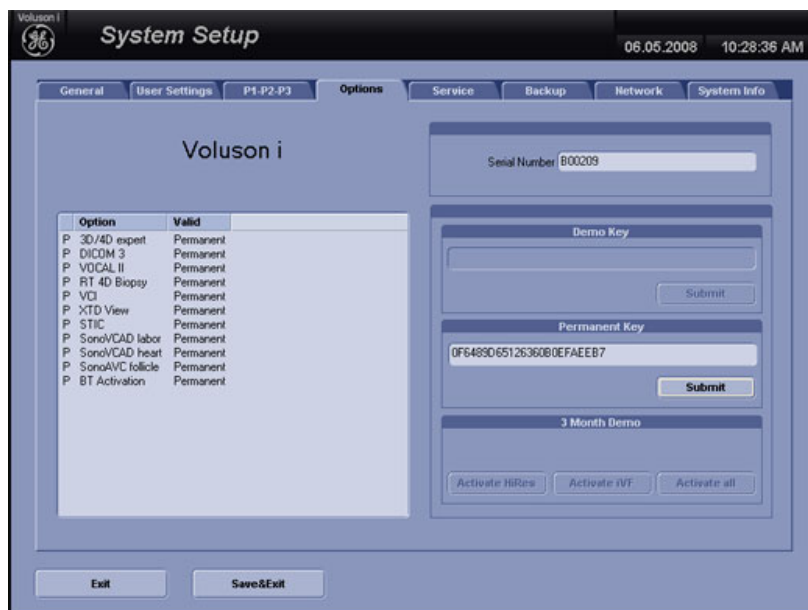

Figure 8-2 Option page (e.g., Voluson i)
**NOTICE** Please verify that you have recorded the **Permanent key** (see: Figure 8-2 on page 8-5).